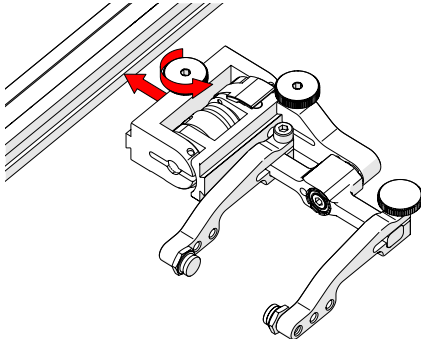

Fig. 76 - Attach to frame bar
1. Rotate the probe holder adjustment knob and attach the probe holder to a frame bar (Fig. 76).